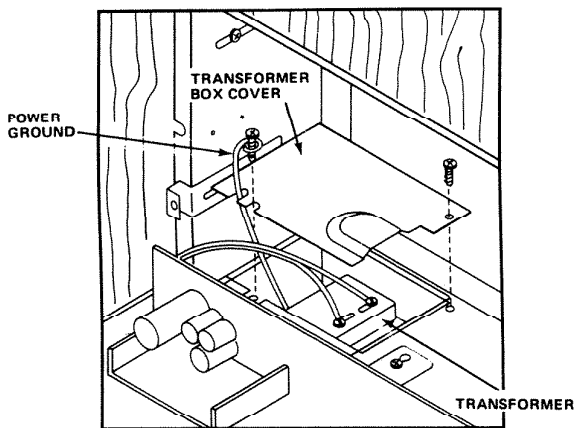

FIGURE 16
2. Connect two low voltage wires (red and white) to the transformer's terminal screws. See Figure 16.
3. Dress wires through raised section of transformer box cover and secure box cover with two screws. See Figure 16.